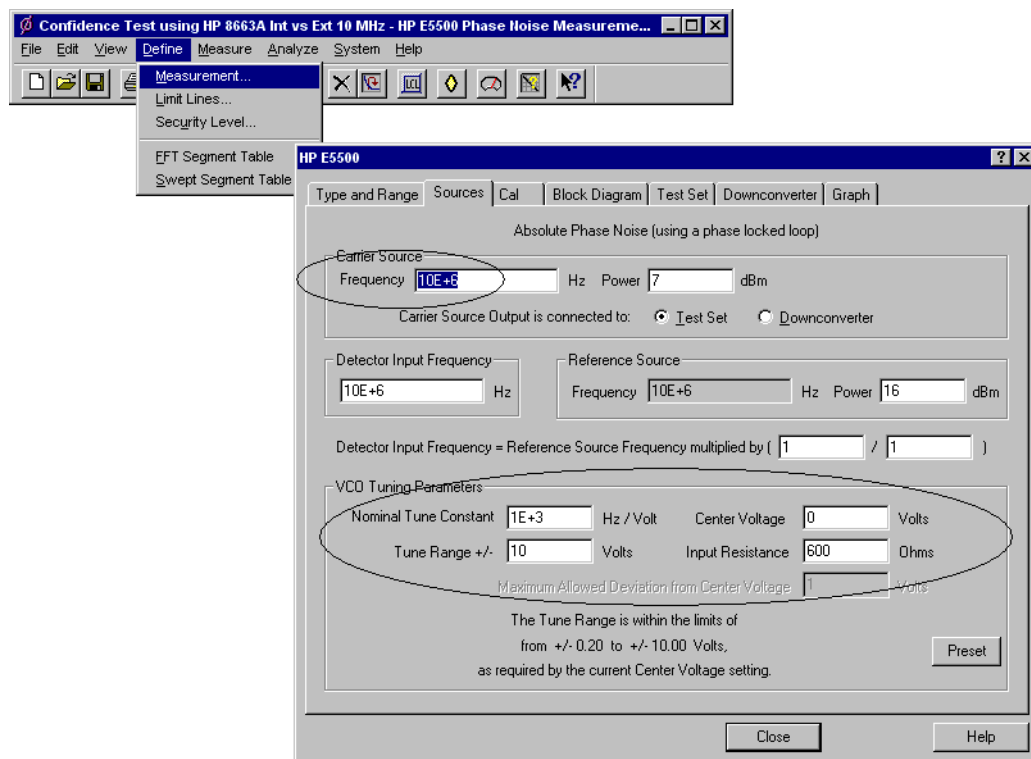

Figure 5-24 Sources Tab in Define Measurement Window
- 4** Using Figure 5-24 as a guide, navigate to the **Sources** tab